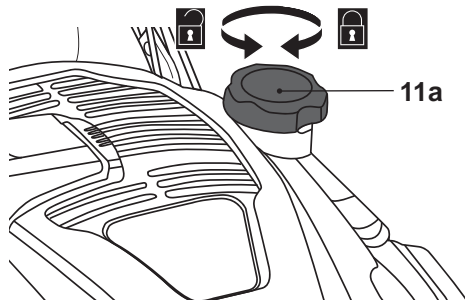

Fig. 14
- Unscrew and remove the fuel tank cap (11a) (Fig. 14).